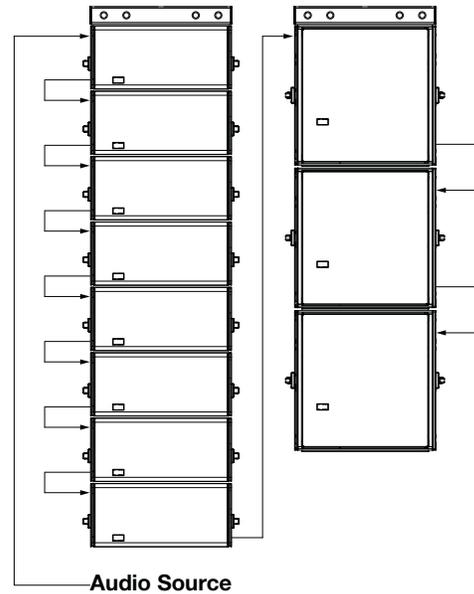

Figure 4: Flown Separate Arrays
- Flown separate arrays of LEOPARDS and 900-LFCs (Figure 4)